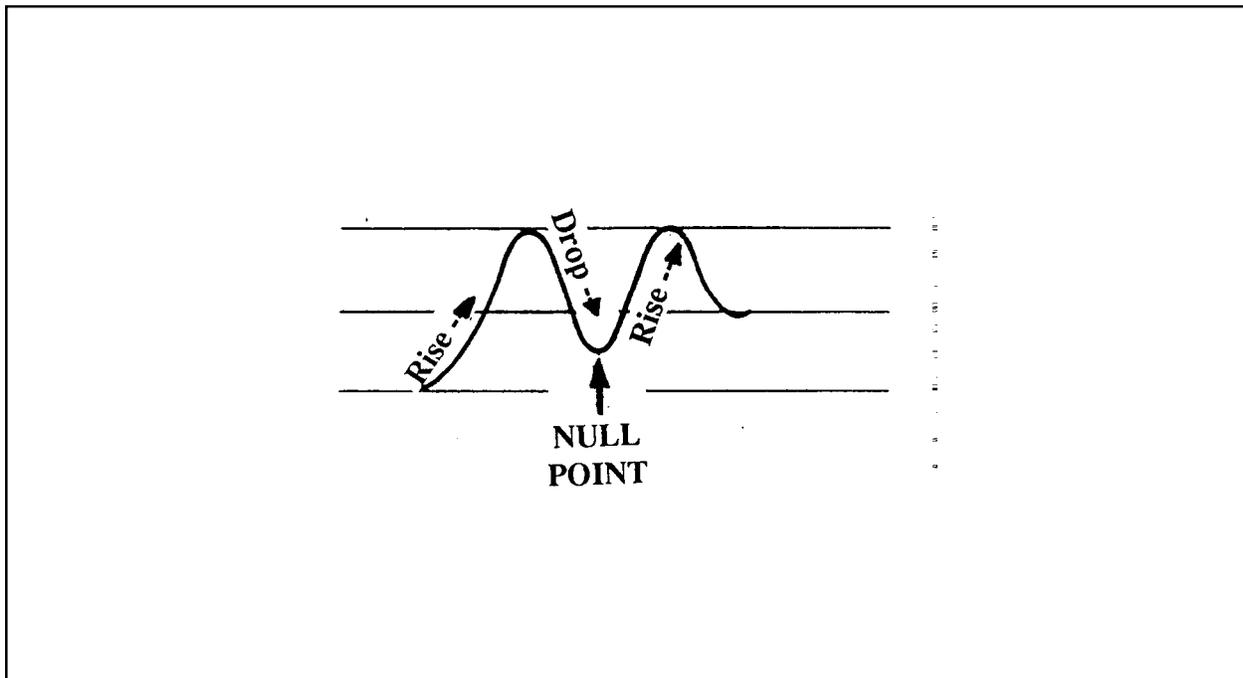

Figure 5-13. Null Point
2. While observing the Null Meter, turn the focus wheel on the Dial Gauge Assembly. There is a point where the needle starts to rise and then drops back to the lower value before starting to rise again. The lowest value after the first rise is called the Null Point (Figure 5-13).
2. While observing the null meter, turn the focus wheel on the Dial Gauge Assembly. There is a point where the meter starts to rise and then drops back to a lower value before starting to rise once again. The lowest value before the first rise is called the Null Point (Figure 5-13).